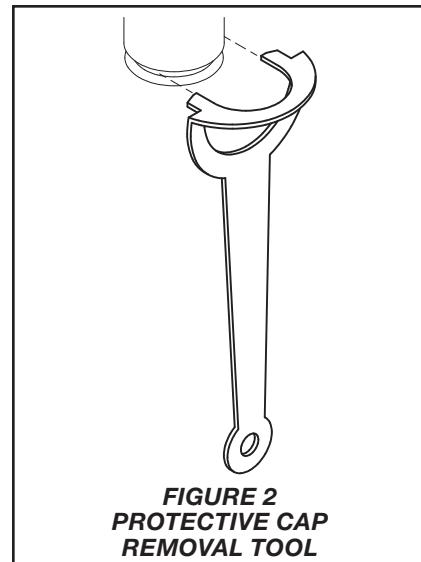

FIGURE 2
Step 6. After the ceiling has been completed with the 2 in. (50 mm) diameter clearance hole, use the Protective Cap Removal Tool (Ref. Figure 2) to remove the Protective Cap and then push on the escutcheon until its flange just comes in contact with the ceiling. Do not continue to push the escutcheon such that it lifts a ceiling panel out of its normal position. If the escutcheon cannot be engaged with the sprinkler, or the escutcheon cannot be engaged sufficiently to contact the ceiling, relocate the sprinkler fitting as necessary.